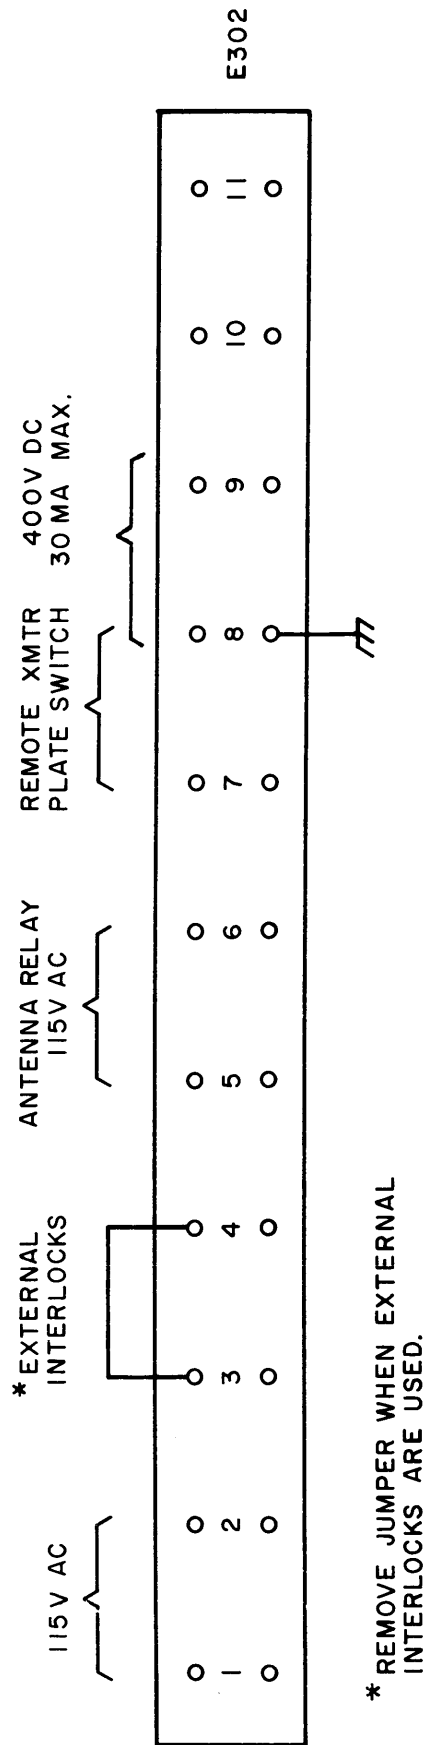

Figure 2-2. E302 Terminal Connections, PAL-1K
d. Make all other external connections to terminal strip E302 as shown in figure 2-2. If an external interlock switch is not used, ensure that terminals 3 and 4 are jumpered.